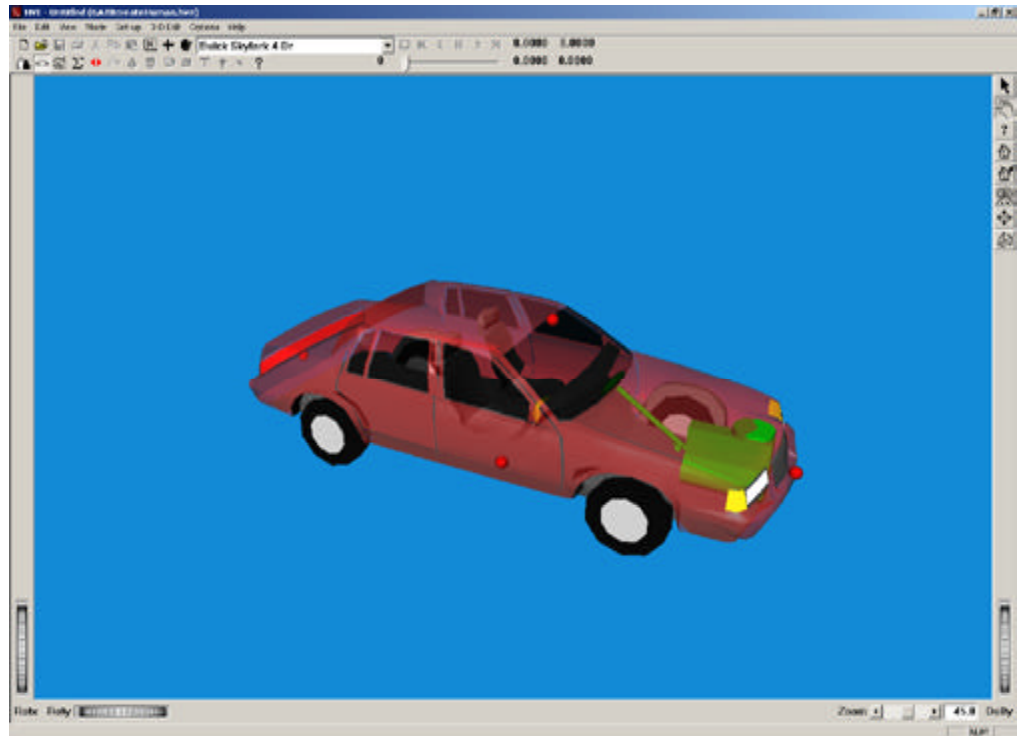

Figure 5-2: View of Buick Skylark
- Manipulate the view in the 3D viewing window to appear similar to that in Figure 5-2.